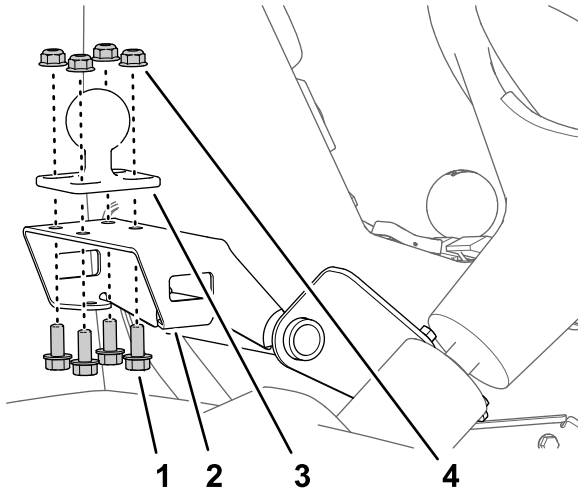

Figure 166
1. Assemble the ball mount to the bracket for the monitor mount (Figure 166) with the 4 flange-head bolt (5/16 x 3/4 inch) and 4 flange locknut (5/16 inch).